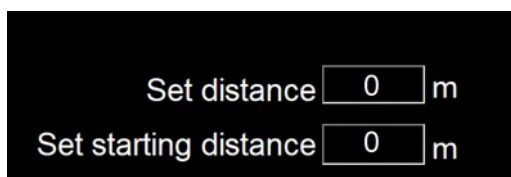

Fig. 18 Distance values
1. Set starting distance to zero (0) (Fig. 18), if ditch starts nearer machine than stake, enter starting distance as negative value (distance between the stake and beginning of the ditch)
3. Bring bucket to the reference (stake) and press  icon to set reference (Fig 18). Pressing “Start depth and distance” will reset both depth and distance to predefined values.
5. Start and continue working until distance is reached (2m in our example. Fig 18)